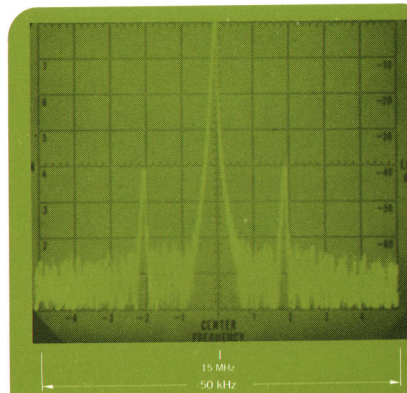
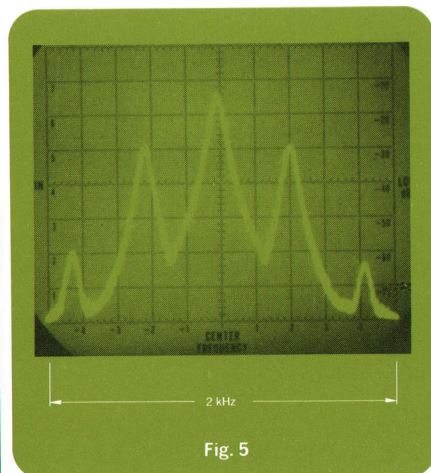
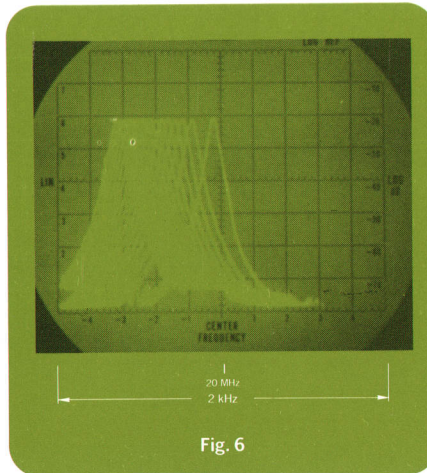
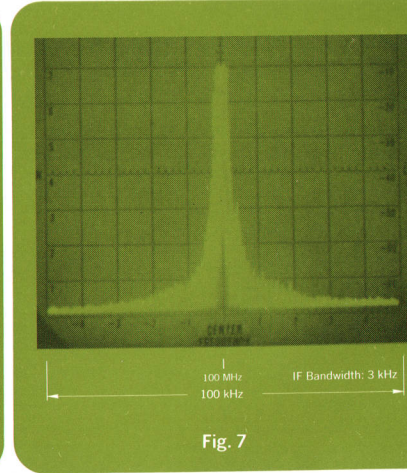

Fig. 4
Fig. 5
Fig. 6
Fig. 7
Amplitude modulation indexes as low as 0.06%, much too low even to be seen on an oscilloscope, can be measured using the 70-dB display range of the new spectrum analyzer. Fig. 4 shows the spectrum of a 15-MHz signal amplitude-modulated at a 10-kHz rate. If  $\beta$  is the ratio of the carrier amplitude  $V_c$  to the sideband amplitude  $V_s$ , expressed in dB, then modulation index  $m$  is given by
In Fig. 4, the sidebands are 40 dB below the carrier. Hence
The resolution of a spectrum analyzer is its ability to separate closely spaced signals. This is important in measuring intermodulation distortion and low-frequency FM and AM, among other things. Resolution is determined mainly by the IF bandwidth. The new analyzer has nine IF bandwidths, ranging from 50 Hz to 300 kHz. Fig. 5 demonstrates the resolution of the 50-Hz IF filter, which has a 3-dB bandwidth of 50 Hz and a 60-dB band-
Fig. 6 shows the warmup drift of a 20-MHz oscillator, displayed on the optional variable-persistence display section. Single scans were triggered every 5 seconds and the traces stored on the CRT. The display indicates a drift of about 600 Hz in 80 seconds.
Residual FM noise sidebands of an oscillator can also be evaluated. Fig. 7 shows the spectrum of a 100-MHz oscillator. The deviation at the top of the trace shows low-frequency residual FM of about 4 kHz peak-to-peak. The 'grass' at the edges of the trace indicates a sideband noise level about 65 dB below the carrier, 10 kHz away from the center frequency.
**Fig. 4.** Spectrum of a 15-MHz signal with 10-kHz amplitude modulation. Sidebands are 40 dB below the carrier, so modulation index  $m$  is  $2 \times 10^{-40/20} = 0.02 = 2\%$ . The 70-dB display range of the new spectrum analyzer can be used to measure modulation indexes as low as 0.06%. The analyzer can also be used as a fixed-tuned receiver to recover the modulation. **Fig. 5.** The new analyzer's 50-Hz IF bandwidth can resolve signals differing by 40 dB in amplitude when they are 400 Hz apart. There are eight other IF bandwidths. This is the spectrum of a carrier amplitude-modulated at 400 Hz, as seen with the 50-Hz bandwidth. Sidebands are 16 dB below the carrier, indicating a modulation index of 30%. Second-harmonic distortion products are more than 30 dB below the fundamental. **Fig. 6.** Warmup drift of a 20-MHz oscillator, displayed on the optional variable persistence display section. Single analyzer scans were triggered every 5 seconds and the traces were stored. The oscillator drifted about 600 Hz in 80 seconds. **Fig. 7.** Spectrum of a 100-MHz oscillator. The deviation at the top of the trace shows about 4 kHz residual FM. The 'grass' at the edges of the trace indicates a sideband noise level about 66 dB below the carrier, 10 kHz away from the carrier frequency.
Fig. 4. When the APC loop is closed, the search network tunes the VTO until the VTO frequency is equal to a harmonic of 100 kHz. Then the loop locks and an error voltage,  $V_e$ , is sent to the 47-MHz third local oscillator, shifting its frequency the same amount that the VTO shifted to reach a lock point. Thus there is essentially no shift in the position of a trace on the CRT when stabilization is switched on.
When the analyzer is switched to STABILIZED, the APC line (Fig. 4) is disconnected from ground, allowing the APC loop to operate. The search network sweeps the VTO until the VTO's frequency reaches some harmonic of 100 kHz. At this point the VTO locks onto the harmonic of the 100-kHz reference and the APC loop becomes stable, disabling the search signal. An error voltage,  $V_e$ , which is proportional to how far the VTO frequency had to shift to reach a harmonic of the 100-kHz reference, is established on the APC line. This error voltage is applied to the 47-MHz LO in the IF plug-in. The 47-MHz LO then shifts its frequency the same amount that the VTO shifted to reach a phase-lock point. As a result, there is essentially no change in the location of a trace on the analyzer's screen when the analyzer is switched from UNSTABILIZED to STABILIZED.
The computer printout for the interaction of the first and second local oscillators is shown in Fig. 5.
Fig. 5. The new spectrum analyzer's residual responses are typically much lower than  $-110$  dBm. To get them this low, a computer program was written to identify residual responses (SPUR) so that filters could be designed to suppress them. This is the printout for the first mixer.
Fig. 6. LC filters are used for the 100 kHz, 30 kHz, and 10 kHz IF bandwidths. Feedback amplifier cancels tank circuit losses represented by  $G_1$  to make gain nearly independent of bandwidth.
The widest bandwidth, 300 kHz, is determined by a fixed LC filter at the beginning of the 3-MHz IF strip. LC filters are also used for the 100-kHz, 30-kHz and 10-kHz bandwidths. Fig. 6 shows a typical LC filter stage. Feedback is used to cancel losses in the LC tank circuit and make it appear ideal. The rest of the circuit presents a negative input impedance to the tank circuit and cancels the losses, which are represented by  $G_1$  in Fig. 6. Bandwidth is controlled by varying the source resistance,  $R_s$ . Since the tank circuit appears ideal, there is no voltage drop across  $R_s$  at resonance. Hence the gain at resonance is independent of bandwidth.